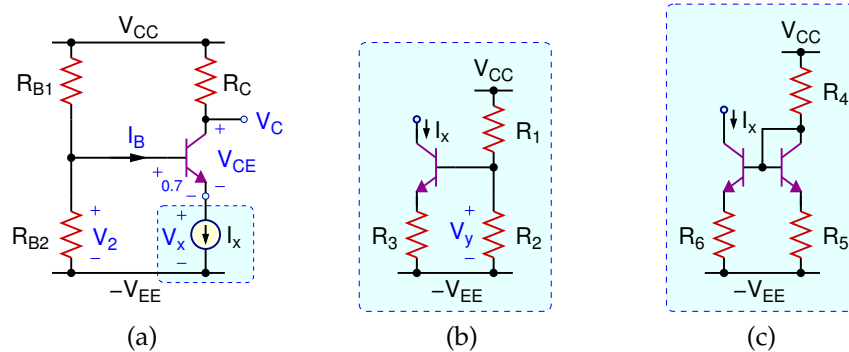
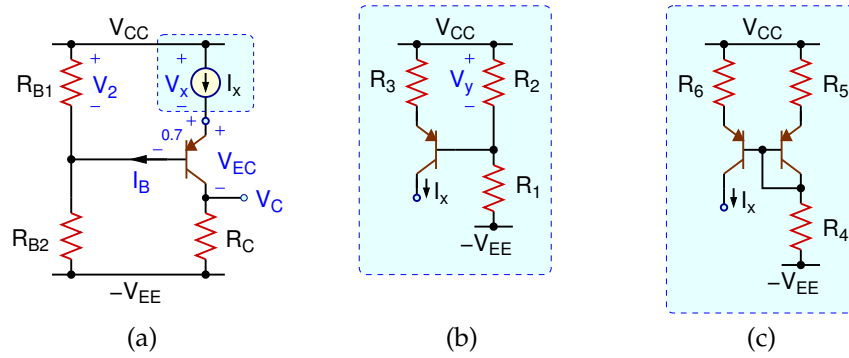

Figure 7: (a) DC biasing circuit for an NPN BJT using a current source (b) Current source (c) Current mirror
Figure 8: (a) DC biasing circuit for a PNP BJT using a current source (b) Current source (c) Current mirror
An alternative method for BJT DC biasing is to use a current source connected to the emitter terminal, which directly sets the I_E current, and hence the I_C current. Figure 7(a) shows the DC biasing of an NPN BJT using a current source, which can be realized using the circuits in Fig. 7(b) or (c). Figure 8 shows the DC biasing circuit of a PNP BJT using a current source, as well as current source and current mirror realizations.
For the current sources in Figs. 7(b) and 8(b), I_x can be calculated as
For the current mirrors in Figs. 7(c) and 8(c), assuming matching transistors and $R_5 = R_6$, I_x can be calculated as
All transistors in Figs. 7 and 8 are assumed to be active, and all I_B currents are assumed to be negligible. These assumptions need to be verified after finding the DC solution.
- Design the circuits in Figs. 7(a) and 8(a) using the current sources in Figs. 7(b) and 8(b), respectively, with the following specifications:
4. Draw the schematics in Figs. 7(a) and 8(a) using the current sources in Figs. 7(b) and 8(b), respectively, with the calculated component values and 2N3904 and 2N3906 transistors. For both circuits, perform **DC operating point** or **interactive simulation** to obtain the **DC solution** for I_C , V_C , V_2 , V_x and V_y .
4. Build the circuits in Figs. 7(a) and 8(a) using the current sources in Figs. 7(b) and 8(b), respectively, with the calculated component values and 2N3904 and 2N3906 transistors. For both circuits, measure the **DC** values for I_C , V_C , V_2 , V_x and V_y using the **voltmeter** or **scope**.
6. For the current-source NPN and PNP biasing circuits in Figs. 7(a)&(b) and 8(a)&(b):